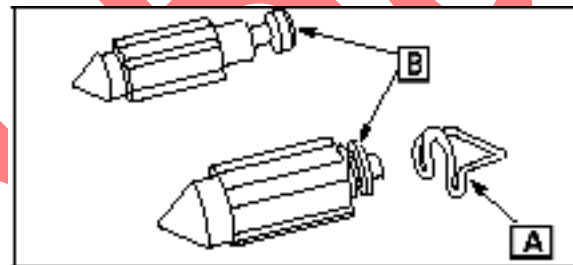

Fig. 44
Install spring (A) to groove in fuel needle valve ([B] Fig. 44).